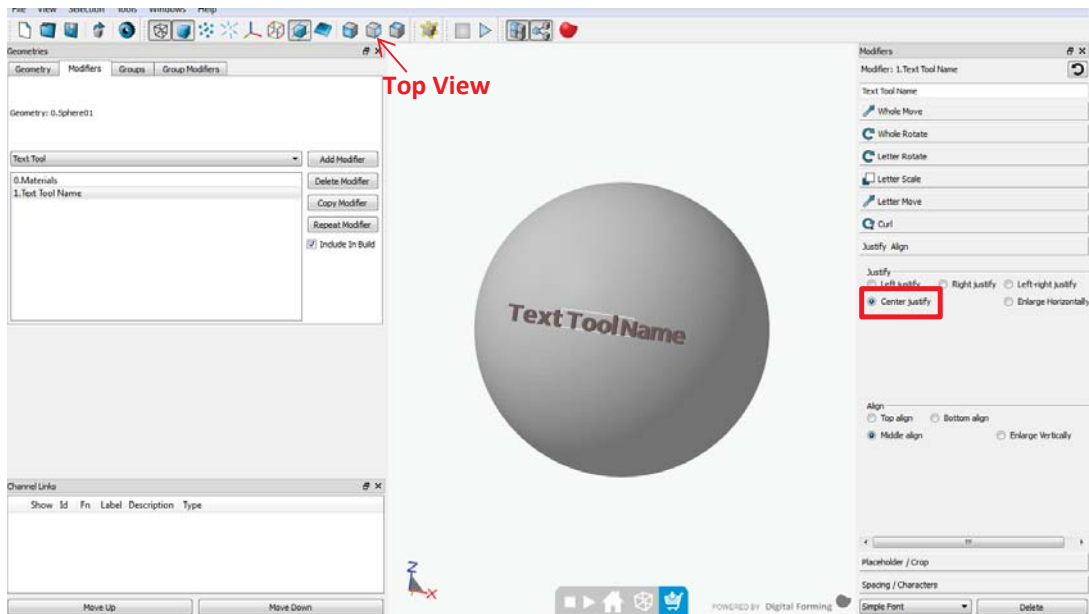

Figure 2
3. Select 'Center Justify' (Figure 2) from the 'Justify Align' tool. This will centralise the text in the placeholder, making it easier to move and curl evenly.